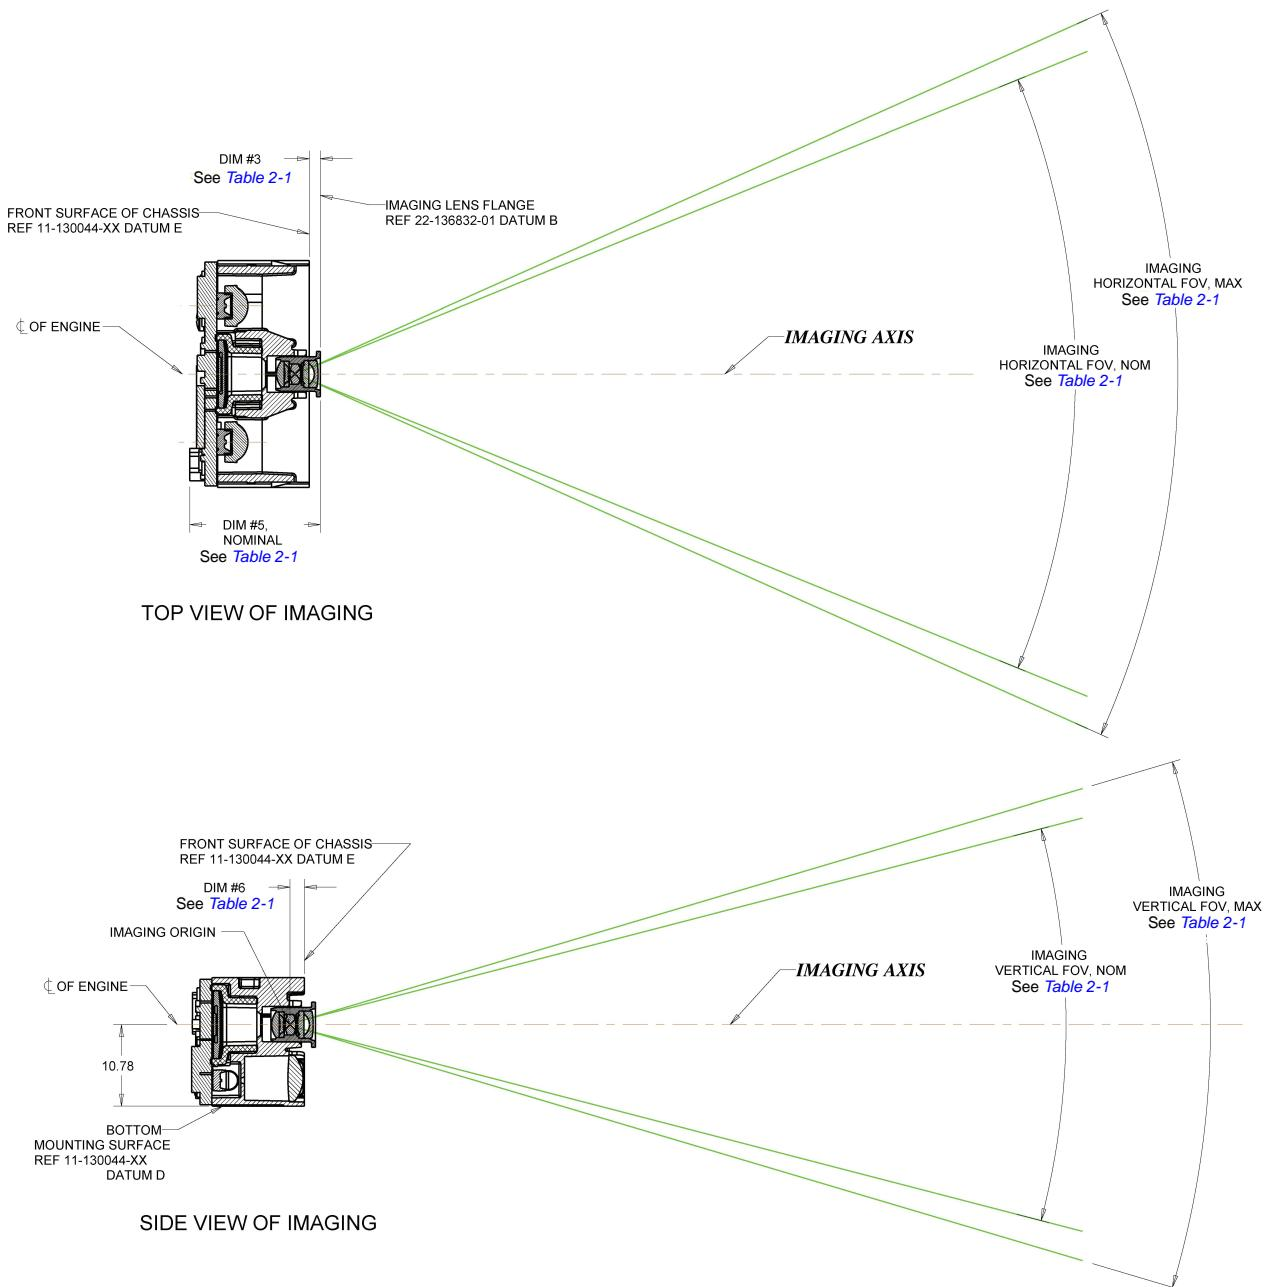

Figure 2-2 SE3300 Optical Path
Design the engine's housing so that internal reflections from the aiming and illumination system are not directed back toward the engine. The reflections from the window or housing can cause problems, and for particular window tilt angles, these reflections can bounce off the top or bottom of the housing and reach the engine. Also, keep all housing elements outside the imaging field of view and usable illumination volume (see Figure 2-2 on page 2-7 and Figure 2-3 on page 2-8). Avoid any bright objects around the engine that can be reflected by a tilted window into the engine field of view and appear in a captured image.
- Ensure the window size is large enough to cover the imaging field of view and usable illumination volume specified in Figure 2-2 and Figure 2-3 plus mounting tolerances of the window relative to the engine.